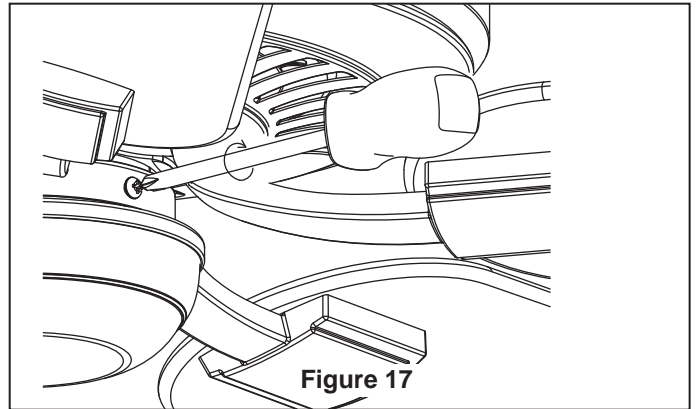

Figure 17
2. Assemble the Switch Cup Assembly onto the Housing Adapter with three screws. (Figure 17)